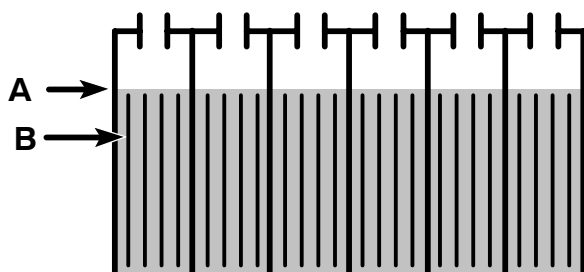

FIG. 18
The electrolyte level (A) should slightly cover the battery plates (B). Add distilled water if needed. DO NOT OVERFILL, the fluid will expand and overflow while charging. Replace cell caps before charging (Figure 18).